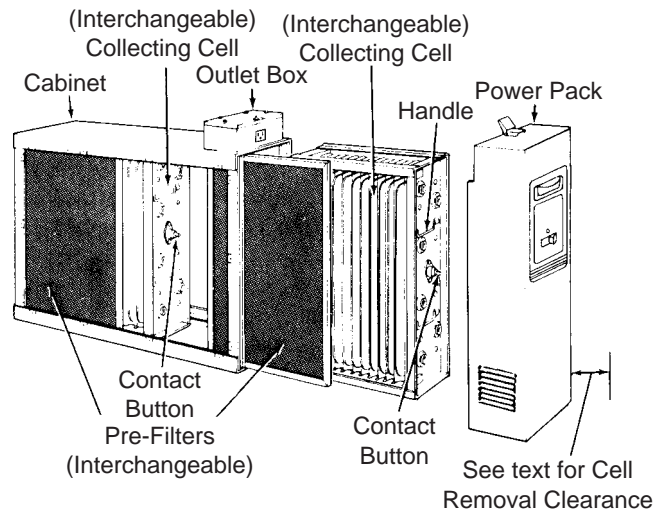

Figure 4
2. Allow the following clearances to permit removal of cells and pre-filters: (See Figures 4 and 5)
Your air cleaner is shipped from the factory with air flow from left-to-right. If this air flow is suitable for the installation, no further changes need to be made (Figure 4). For right-to-left air flow, remove both pre-filter and cell sections.
1. Place the air filter cleaner on the floor. Stand it upright with the power door facing you (Figure 4). If a horizontal installation is being planned, lay the cleaner on its side, this will help you to visualize the relative location of all parts.